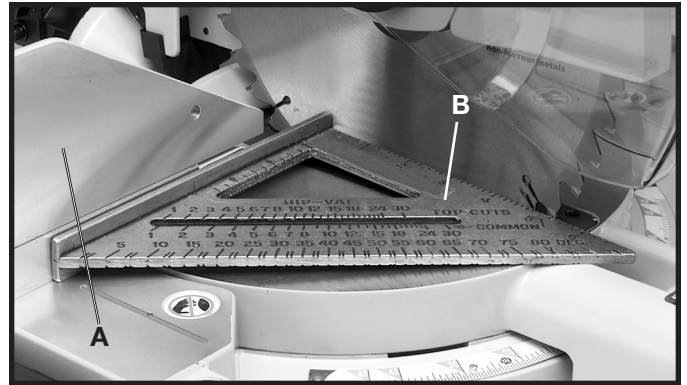

Fig. 23
If the fence (A) Fig. 23 is removed from the saw, re-adjust it after replacement so that it is 90 degrees to the blade as follows:
1. Place one end of the square (B) Fig. 23 against the fence (A) and the other end against the blade.